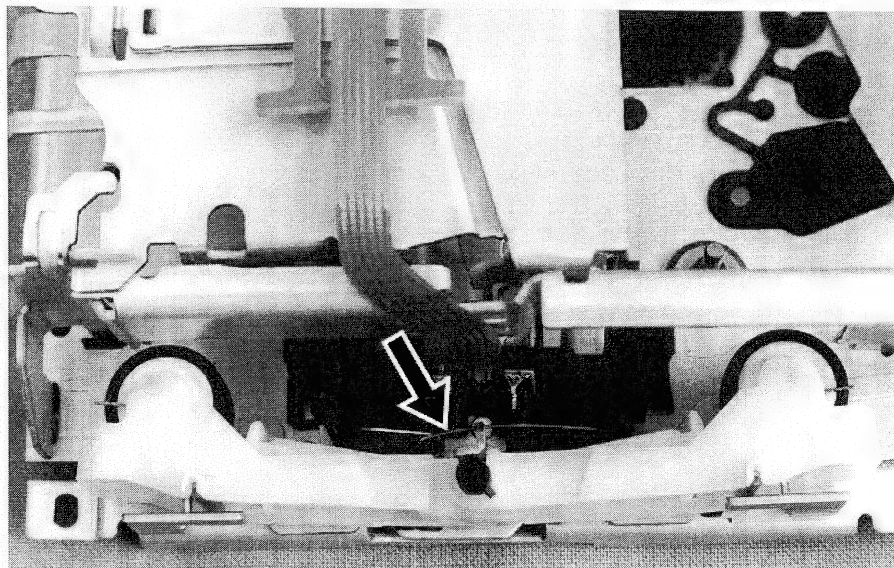

Figure 13
- Remove the spring pos. 30.
- Remove the head assy from the holder of the base plate pos. 23.
- Note: When re-assembling, take care to put the spring pos. 30 in the right position again! See figure 13.